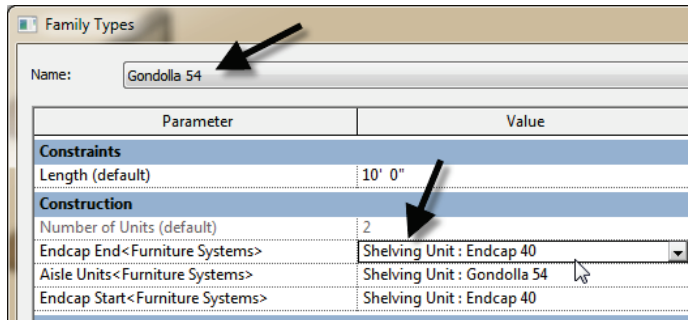

Figure 21—Assign values for the new <Family Types> parameter
5. Open the “Family Types” dialog and edit each existing type. For the ones that are named “48”, choose the Endcap 36 type for Endcap End. Choose the Endcap 40 type for the “54” types. Flex each one (see Figure 21).